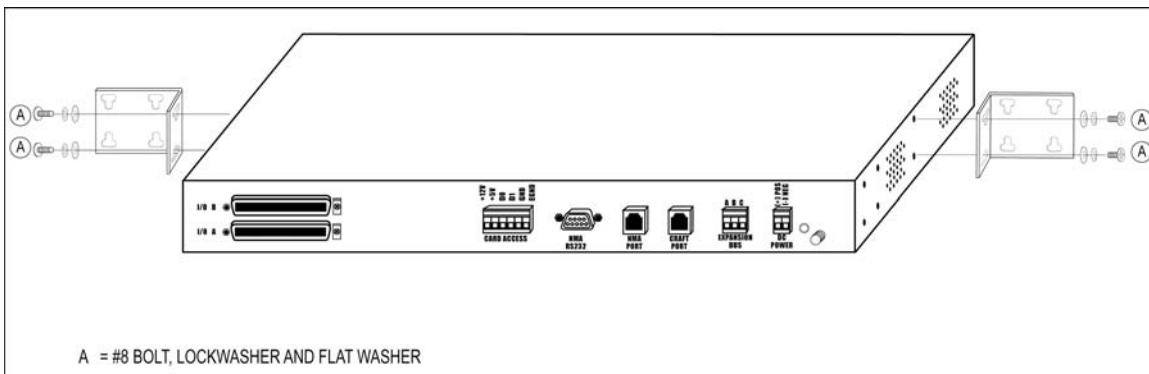

Figure 4. Bracket Orientation for TELSEC® Installation into 23-inch Equipment Rack.
provided). To accommodate a 23-inch rack, the brackets are reversed, with the short sides being attached to the TELSEC® and the long sides attached to the rack. (See Figure 4.)
There are three (3) sets of two (2) holes on each side of the System console. (See Figure 4 above.) Any of these sets may be used to attach the mounting brackets to the system. Use the #8 screw with lock washer and flat washer to secure the bracket to the side of the chassis in two places. **USE ONLY THE ATTACHING SCREWS PROVIDED, AND DO NOT ATTACH THE BRACKETS WITHOUT USING THE WASHERS PROVIDED** – Screws longer than those provided to mount the brackets might engage the cables or interface board inside the unit, resulting in damage to one or more system components. Clearance on the top and bottom is not a concern because the ventilation perforations are on the side of the console.